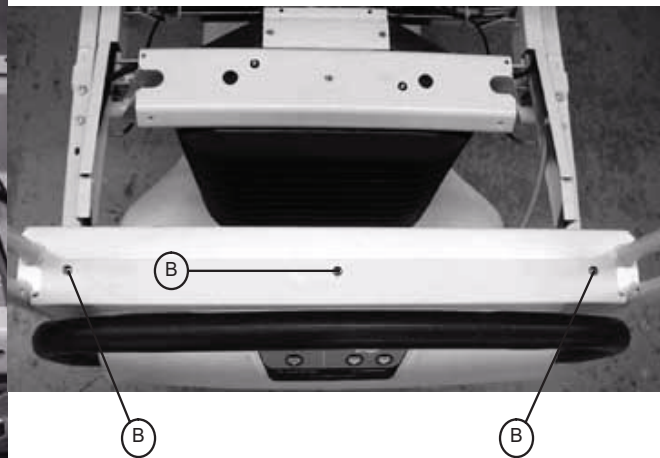

Figure 2
6. Using a #2 Phillips screwdriver, remove the three screws (B) holding the control bar cover to the head end of the bed (see Figure 2).